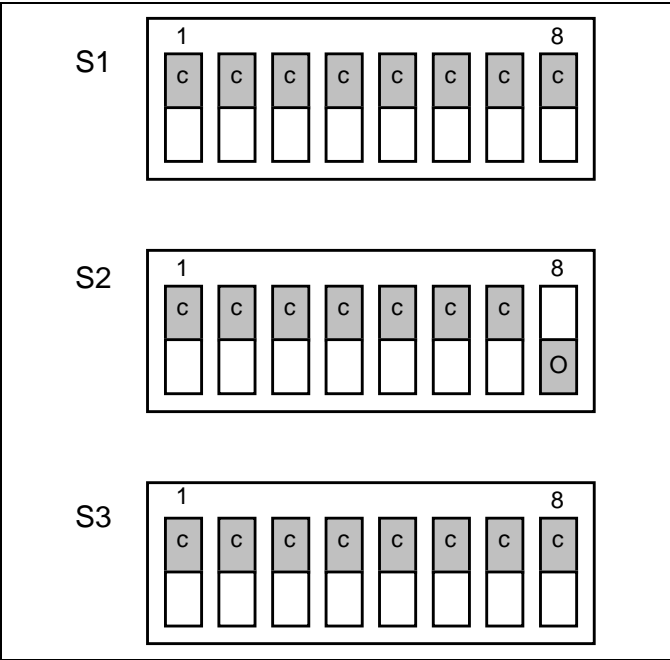

Figure 12 - Test Mode, Repeat
- 2. Record the position of the GETC dip switches and then reset the switches to the positions shown in Figure 12. Reset the GETC.